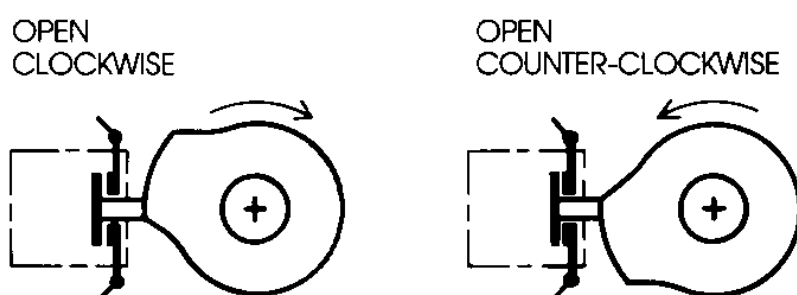

Fig. 4. Setting the CLOSING limit switch.
- Set the top red cam as shown in Fig. 4.